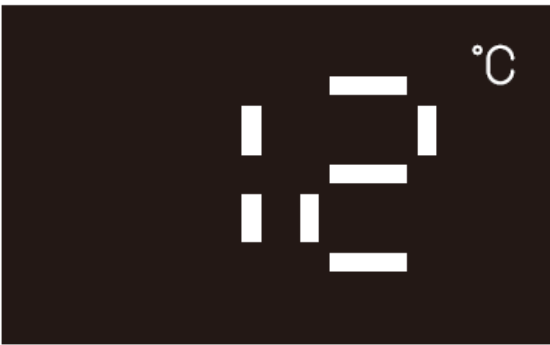

Fig.7
1. After powering on, the buzzer on the control board emits a "beep" sound, the digital display  shows the current ambient temperature, the display light is half-lit, and the product is in standby mode. Ambient temperature display example as following Fig.7.